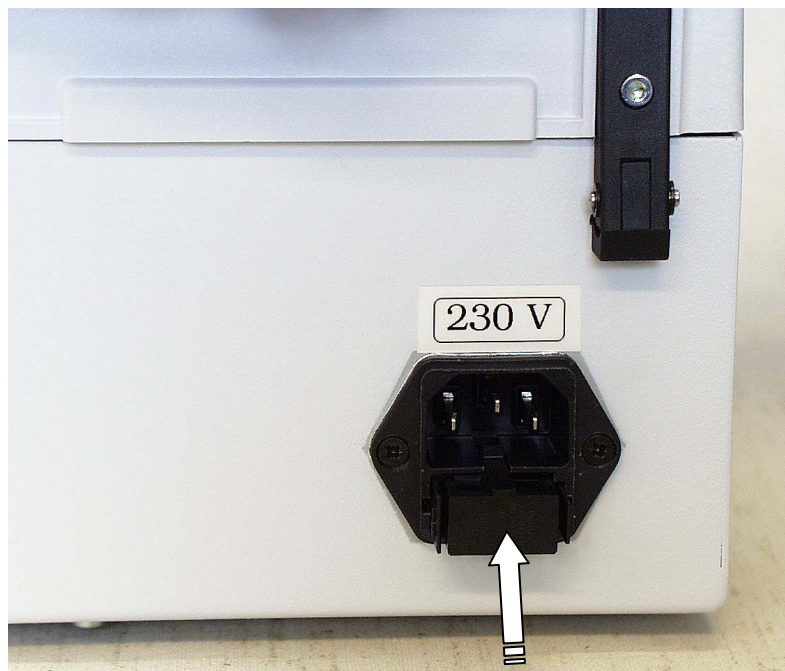

Fig. 7.4 Inserting the fuse holder cap
4. Replace the blown fuse with the same type and push the fuse holder cap back into its position (Fig. 7.4).